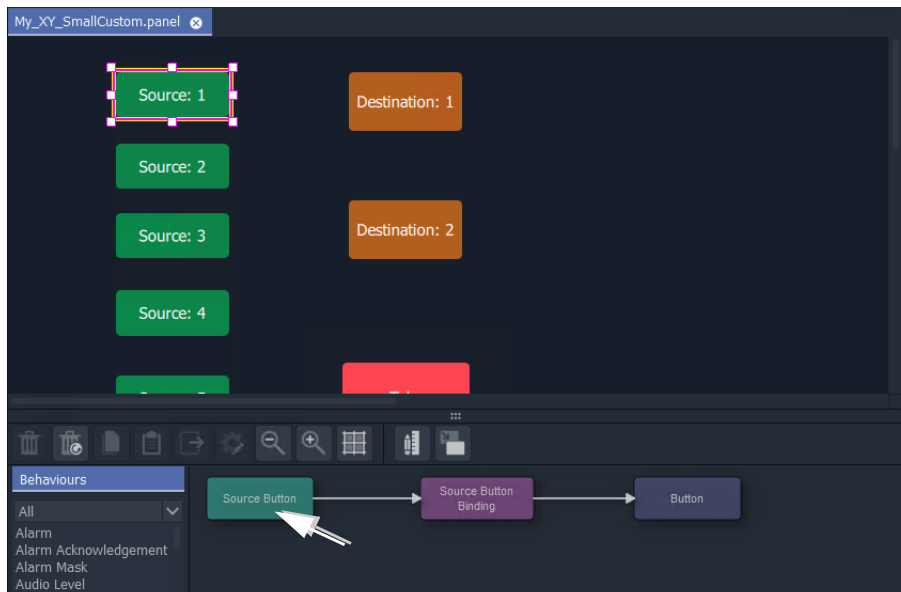

Fig. 6-45: Double-click on 'Source Button' Behaviour
- 2 Select a Source button in the XY Panel and double-click on the 'Source Button' Behaviour in the editor. See Figure 6-45.